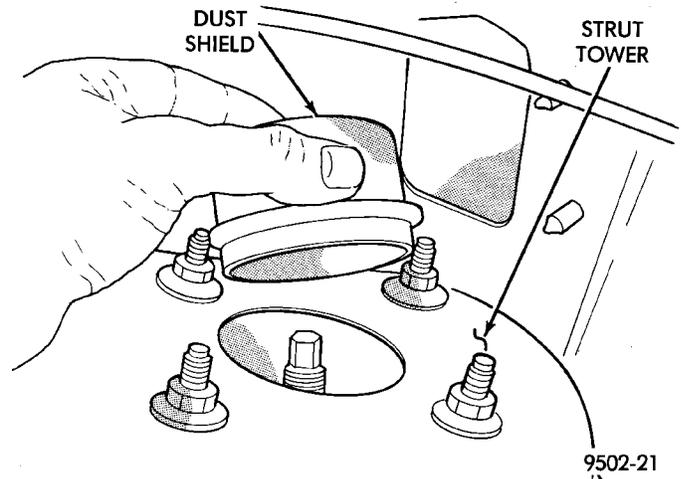

Fig. 6 Dust Shield Removal From Strut Tower
(6) Lower vehicle. Access to rear upper strut mount to strut tower attaching bolts, is through the trunk of the vehicle.
(7) Remove carpet (if required) from top of strut tower. Then remove rubber dust shield (Fig. 6) from top of strut tower, this will allow easier access to upper strut mount attaching nuts.
- (2) Install dust shield into hole on top of strut tower (Fig. 6). Install carpeting back on top of rear strut tower.
- (3) Raise vehicle.